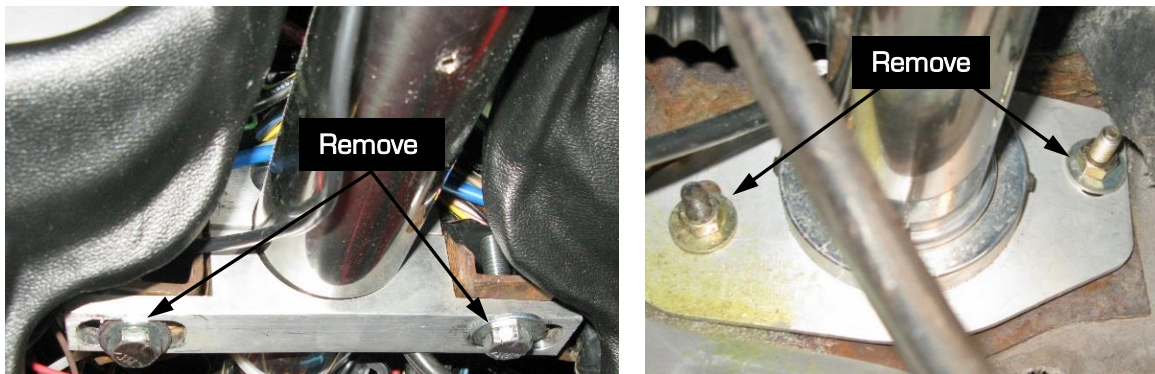

Figure 11 - Remove Steering Column Hardware
20. Remove the two bolts holding the steering column to the support brace, Remove the two carriage bolts from the lower part of the column (Figure 11). **NOTE:** The steering column used in the pictures below is from an aftermarket column.